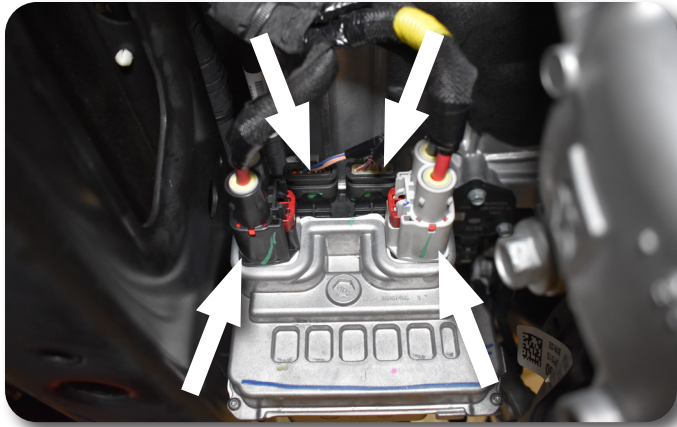

Figure 42
73. Re-install the Steering Rack to frame using the OE bolts, torque hardware to 118 + 90° ft-lbs. Reconnect the four wiring plugs. Fig. 42